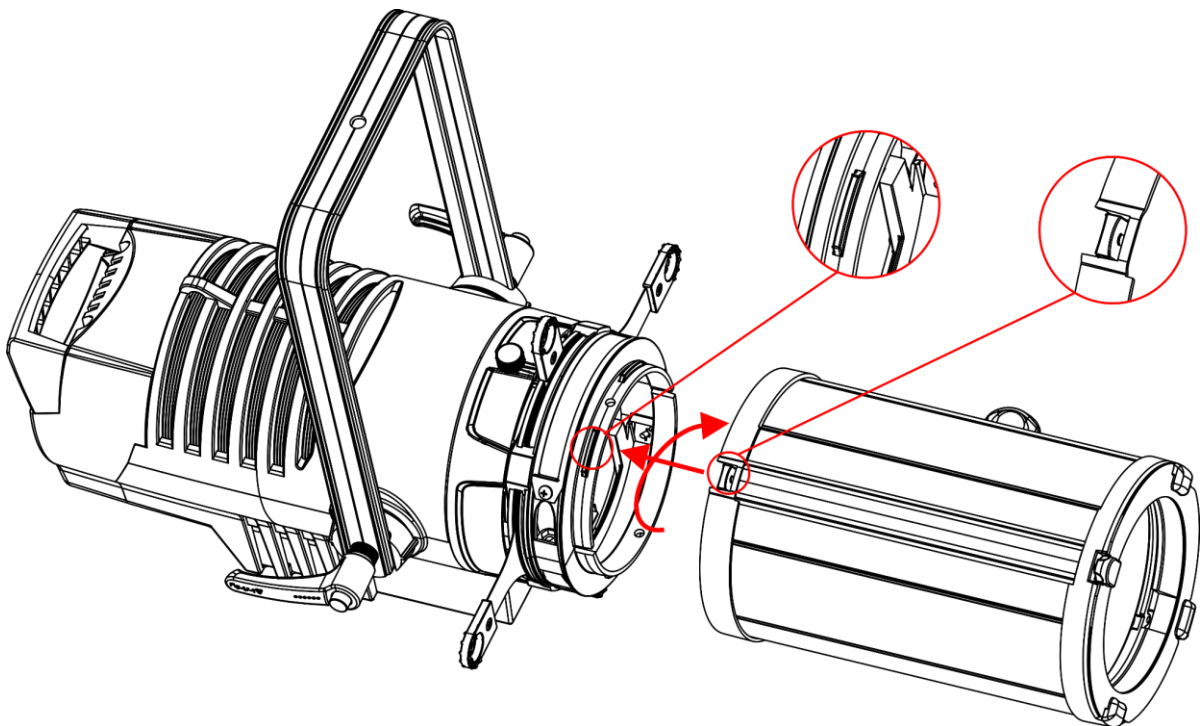

Fig. 07
- 01) Insert the cutout into the slot of the fitting at the marked spot, see figure 07.